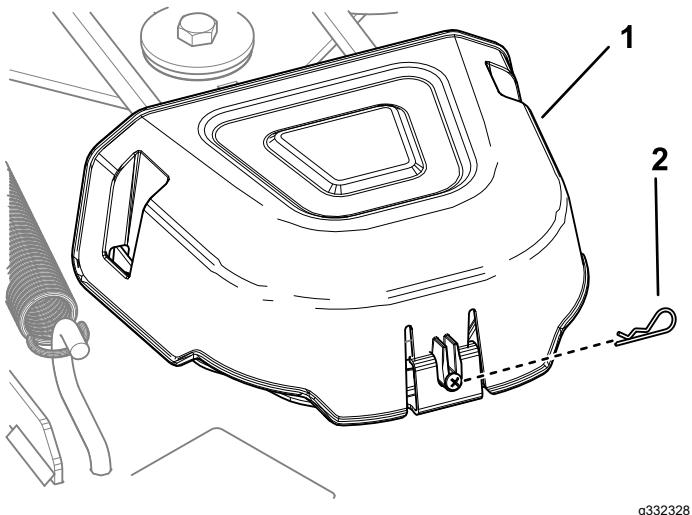

Figure 49
4. Remove the hairpin cotter and push in the tab on the cover to remove the pulley covers (Figure 49).